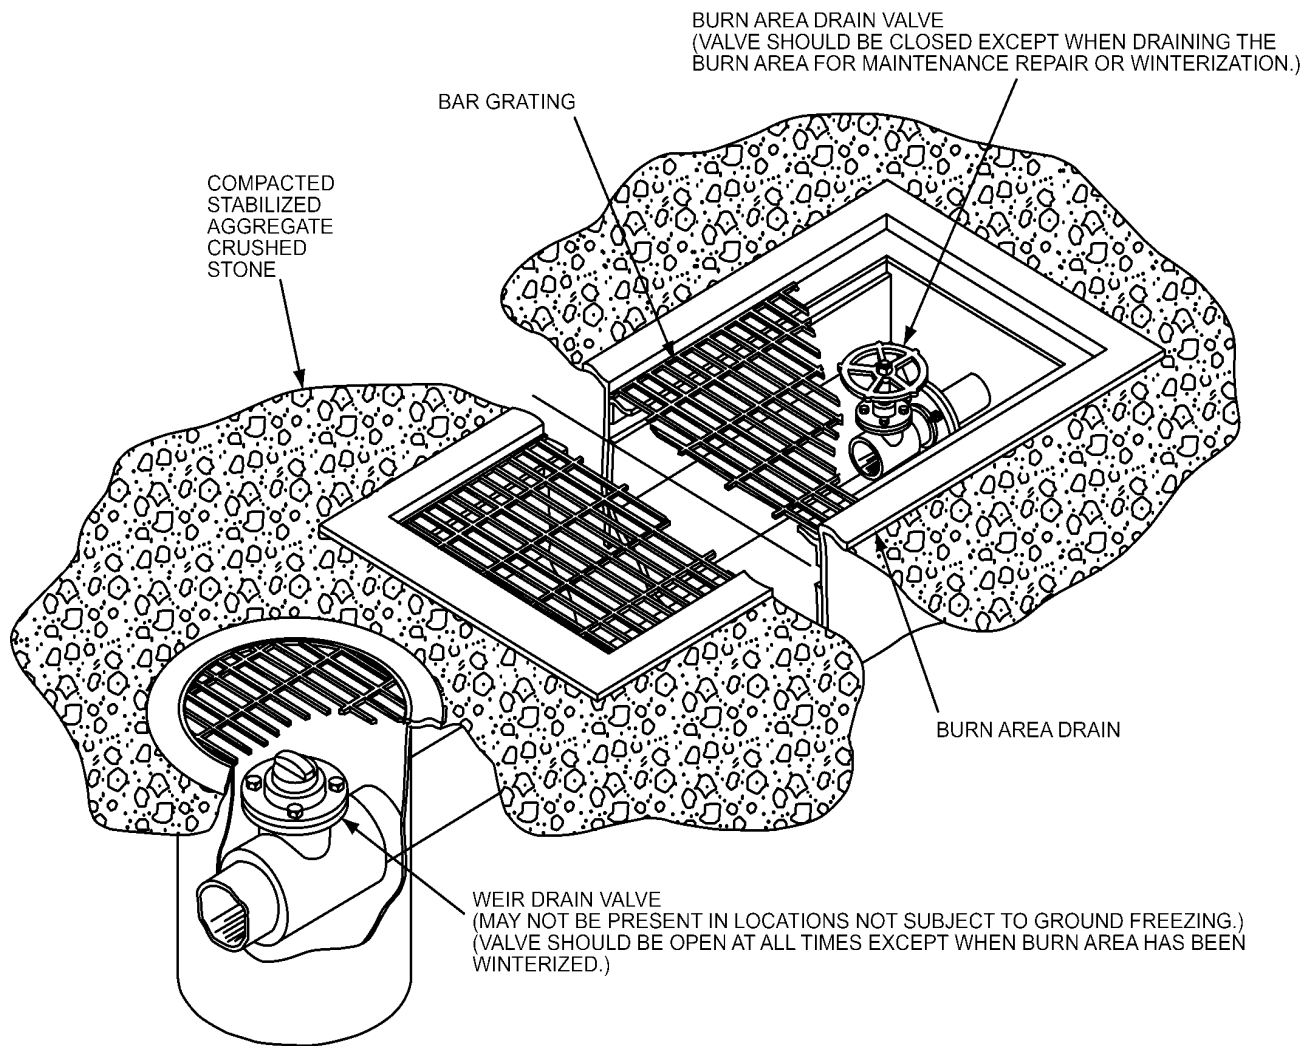

Figure 1. Burn Area Drain
- b. Open the burn area drain valve (Figure 1), weir drain valve, water manifold drain valve, trench drain valve and fire department connection. These valves must remain open to drain for not less than 72 hours.